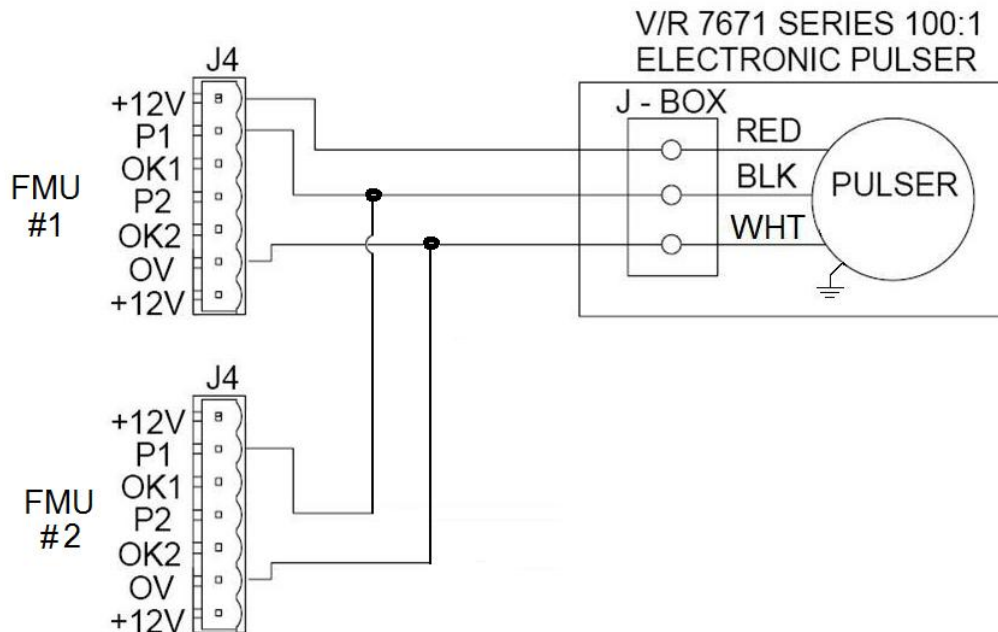

Figure 4-26. Redundant FMUs, One Dispenser, One Pulser
Applications have been requested for redundancy where two FMUs connect to one dispenser. When doing so, caution must be used in making pulser connections. See Figure 4-26. Only one FMU may be used as the +12V power source to a pulser, but both must have a common 0V. Power from two different FMUs or power sources to a single pulser may result in damage to the FMUs and pulser. Power from either source will feed back to the other source and may result in damage to both FMUs and, possibly, the pulser. DC commons/grounds (0V) from both sources must be joined (common) for pulses to be detected by both FMUs. The FMU AC ground cannot be used for a DC common/ground.
11. **Indoor Receipt Printer** (see Figures 4-26 and 4-27 for connections). The indoor receipt printer requires connection to an I/O Silver Board having part numbers 203610, 203629, or 221813. A part number 972A0102 cable is connected between J2 RECEIPT PRINTER on the Satellite I/O Control Board, and JP11 DIRECT CONNECT on the I/O Silver Board.